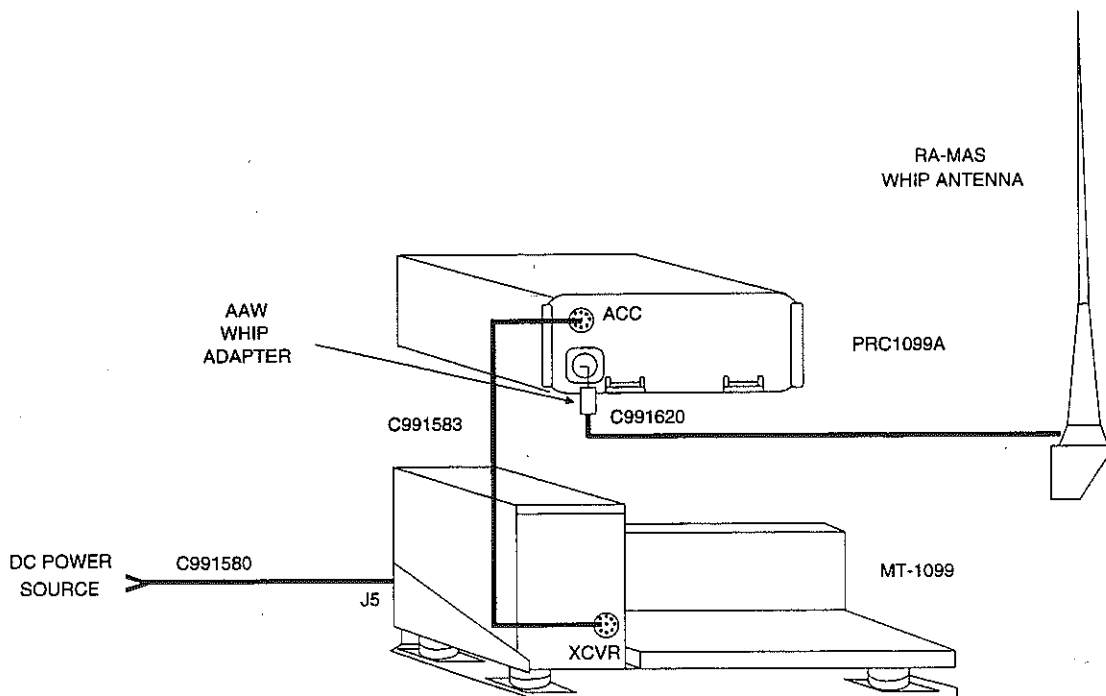

FIGURE B-8.
- a. The PRC1099A can be used in a mobile configuration as shown in Figure B-8.
3. Attach the correct cables as indicated in Figure B-8.